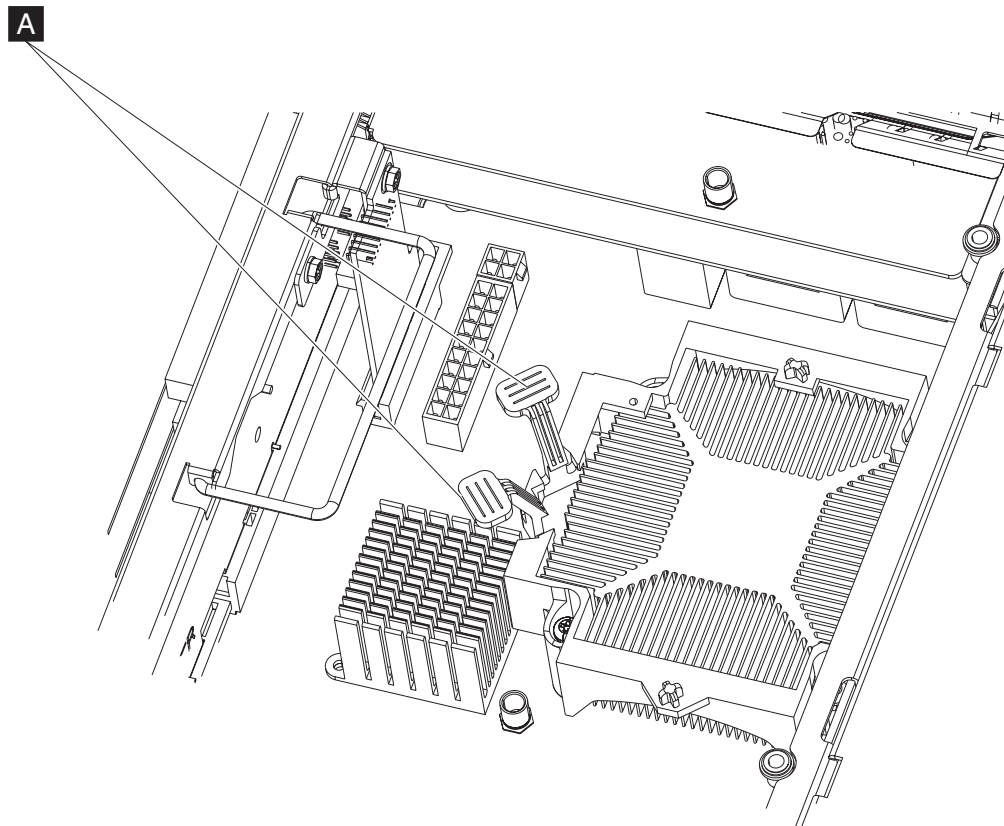

Figure 31. Processor fan and levers
3. Press down on the levers (**A** in Figure 31) on the processor heatsink to release the connections.